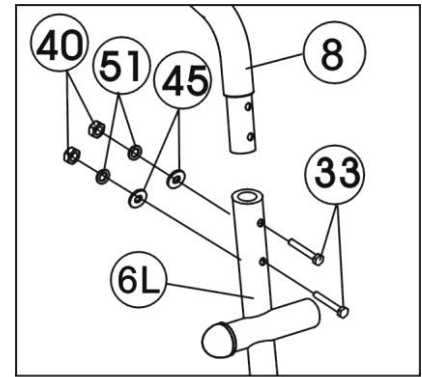

Figure 9
Insert the Left handlebar (8) to the Left Handlebar support (6L) with four sets of M8x40 Bolts (33), Φ 8 Arc washers (45), Φ 8 Spring washers (51), and M8 Cap nuts (40). Do the above same steps to assemble the Right handlebar (11) to the right Handlebar support (6R). (Refer figure 9)